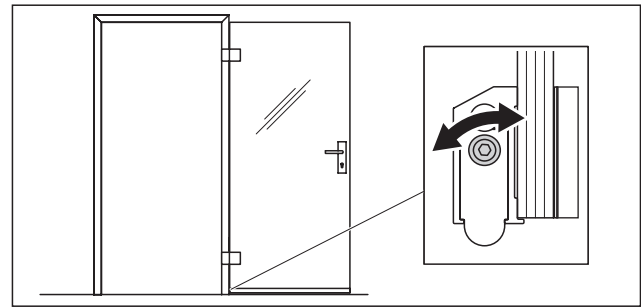

Fig. 17 Set the drop-down torque in the trigger wedge at the secondary closing edge
1. If the drop-down seal triggers too early or too late when closing the door, then adjust the drop-down torque in the trigger wedge with a 3 mm Allen wrench (Fig. 17).